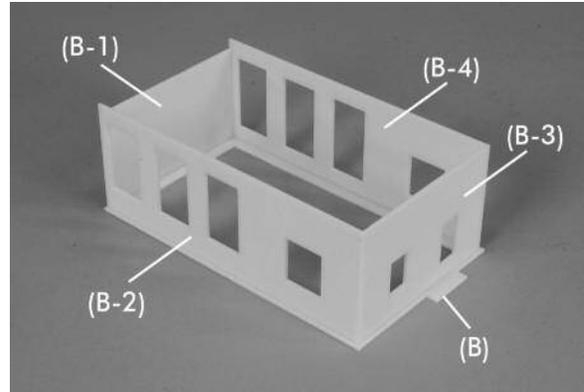

Figure 9
Lay part (B) on your work surface with the engraved letters facing up. Insert the tabs on parts (B-1), (B-2), (B-3) and (B-4) into the slots in the Base (B) and glue in place. Glue the walls to each other as well. Make sure the engraving is facing out on all the parts. Check that all the tabs are seated properly and that the assembly is square. See Figure 9